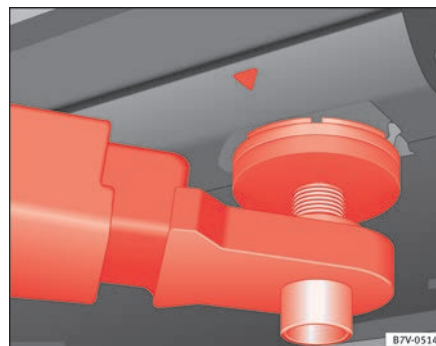
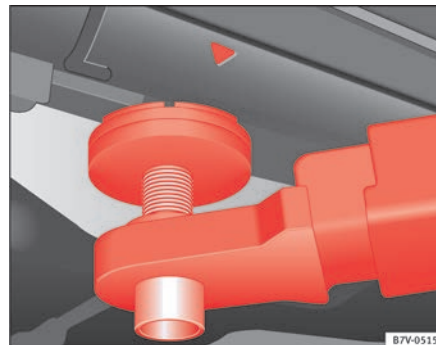

Fig. 160 Front jacking points for raising vehicle with lifting platform or jack.
Fig. 161 Rear jacking points for raising vehicle with lifting platform or jack.
Always use the jacking points indicated in the figures ⇒ fig. 160 and ⇒ fig. 161 when raising the vehicle. If the vehicle is not lifted at these points, it could be seriously damaged ⇒ ⚠ or lead to serious injury ⇒ ⚠.
- Only use the jacking points indicated in the figures ⇒ **fig. 160** and ⇒ **fig. 161** when raising the vehicle. If the vehicle is not lifted at the indicated points, it may fall from the platform while the engine or gearbox is being dismantled, for example.